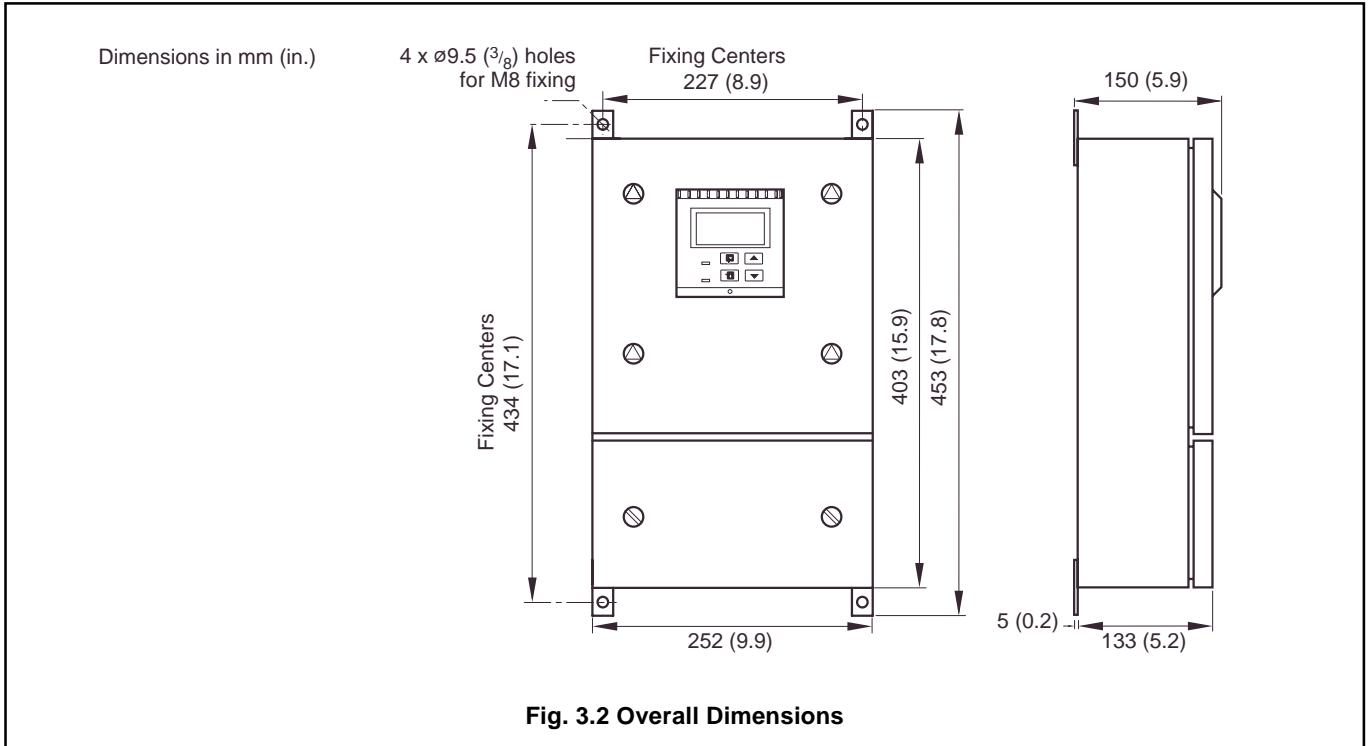

Fig. 3.2 Overall Dimensions
3.2 Overall Dimensions – Fig 3.2